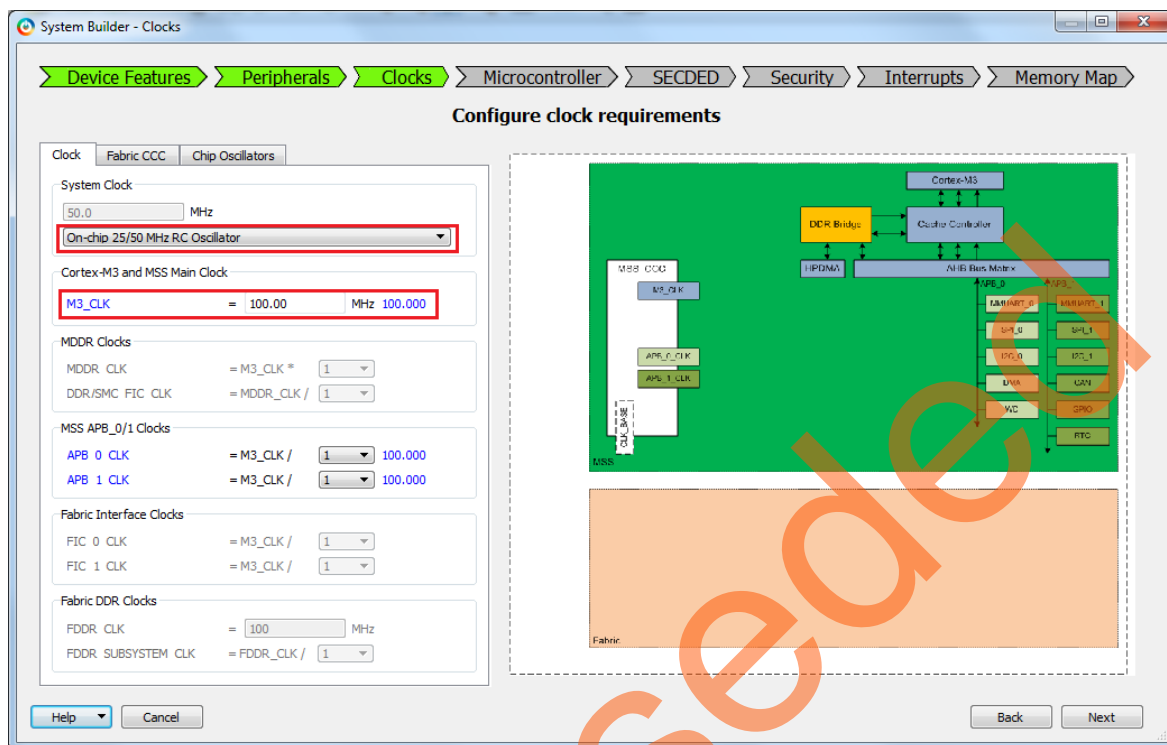

Figure 9 • System Builder – Clocks Page
12. Click **Next**. This opens **System Builder - Clocks** page as shown in Figure 9.
13. In the **System Builder - Clocks** page (see Figure 9):